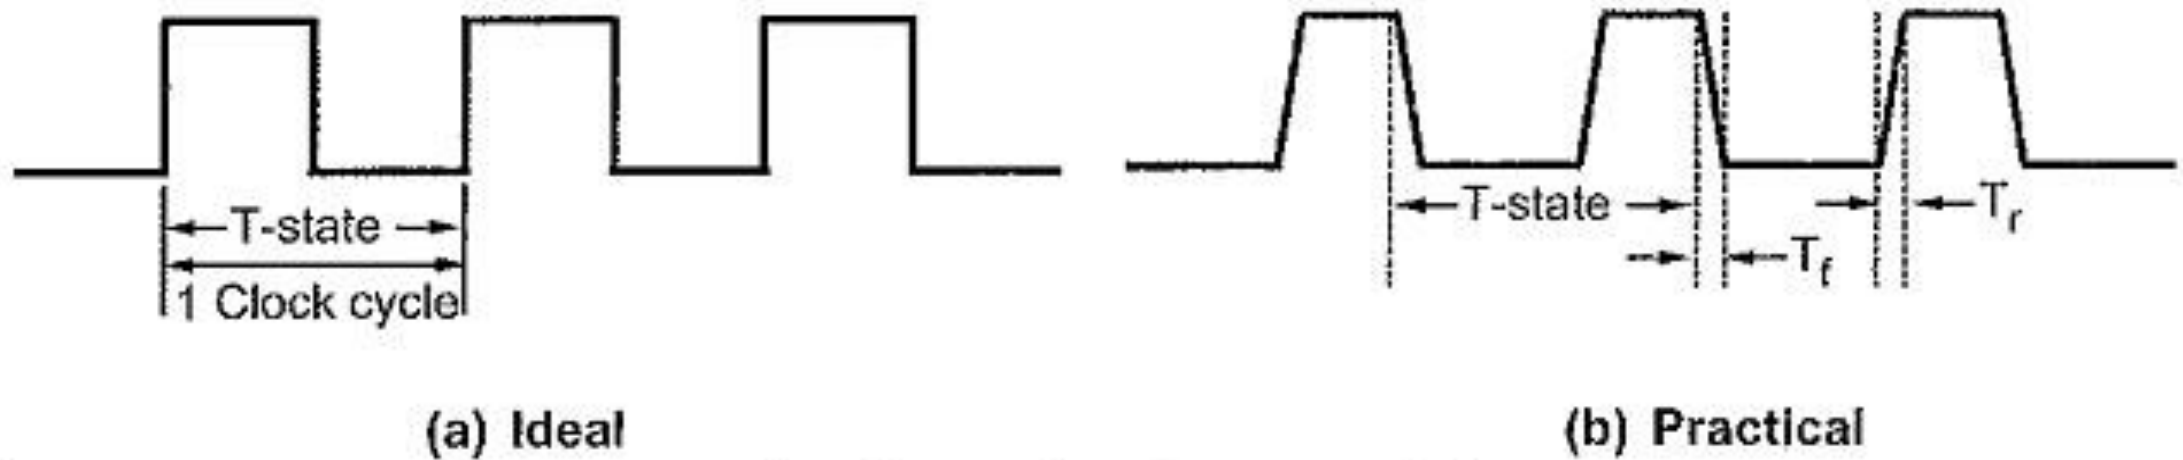

Fig. 1.5 Clock signal representation
- ❖ Therefore the clock and other signals are always shown with finite rise and fall times. Fig. 1.5. shows the practical way of representing clock signal.